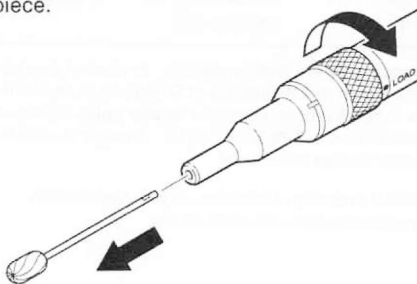

Figure 4.
1. Rotate the lock collar to the LOAD position (figure 4).